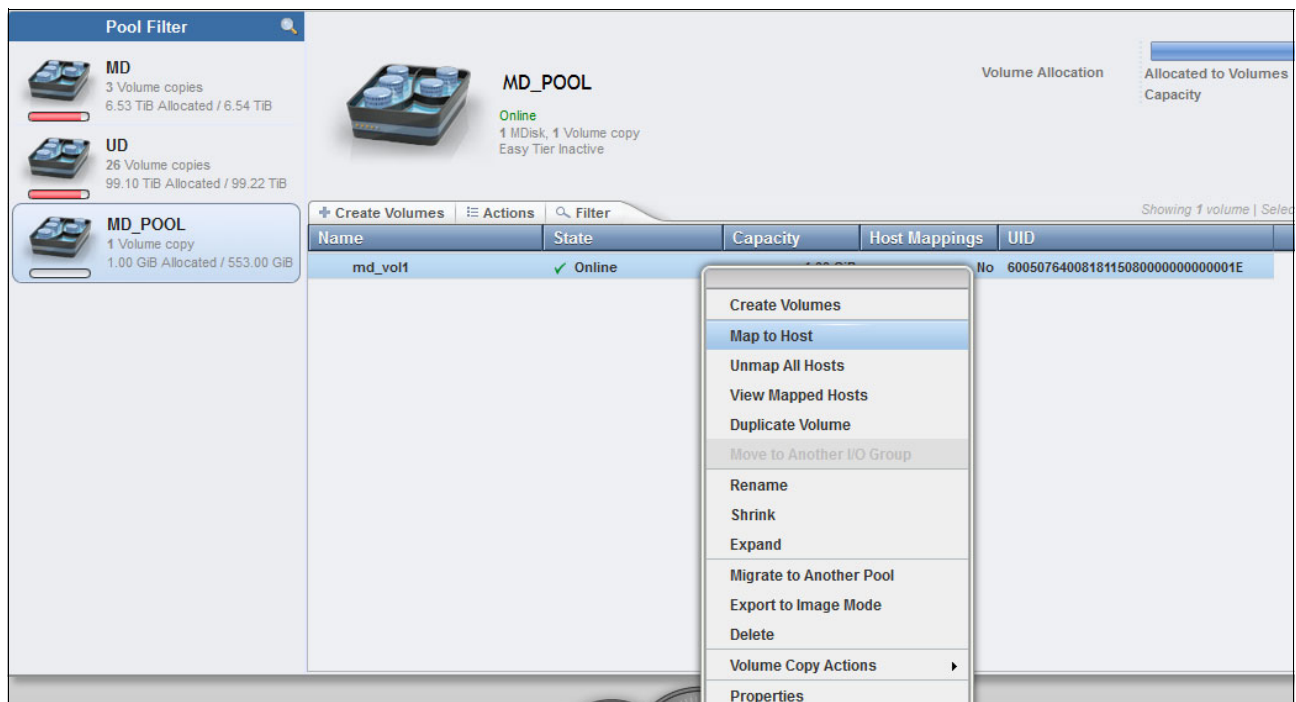

Figure 9-15 Volumes by pool
2. The list of volumes separated by pool opens (Figure 9-15). Mark the volumes, right-click, and click **Map to Host**.